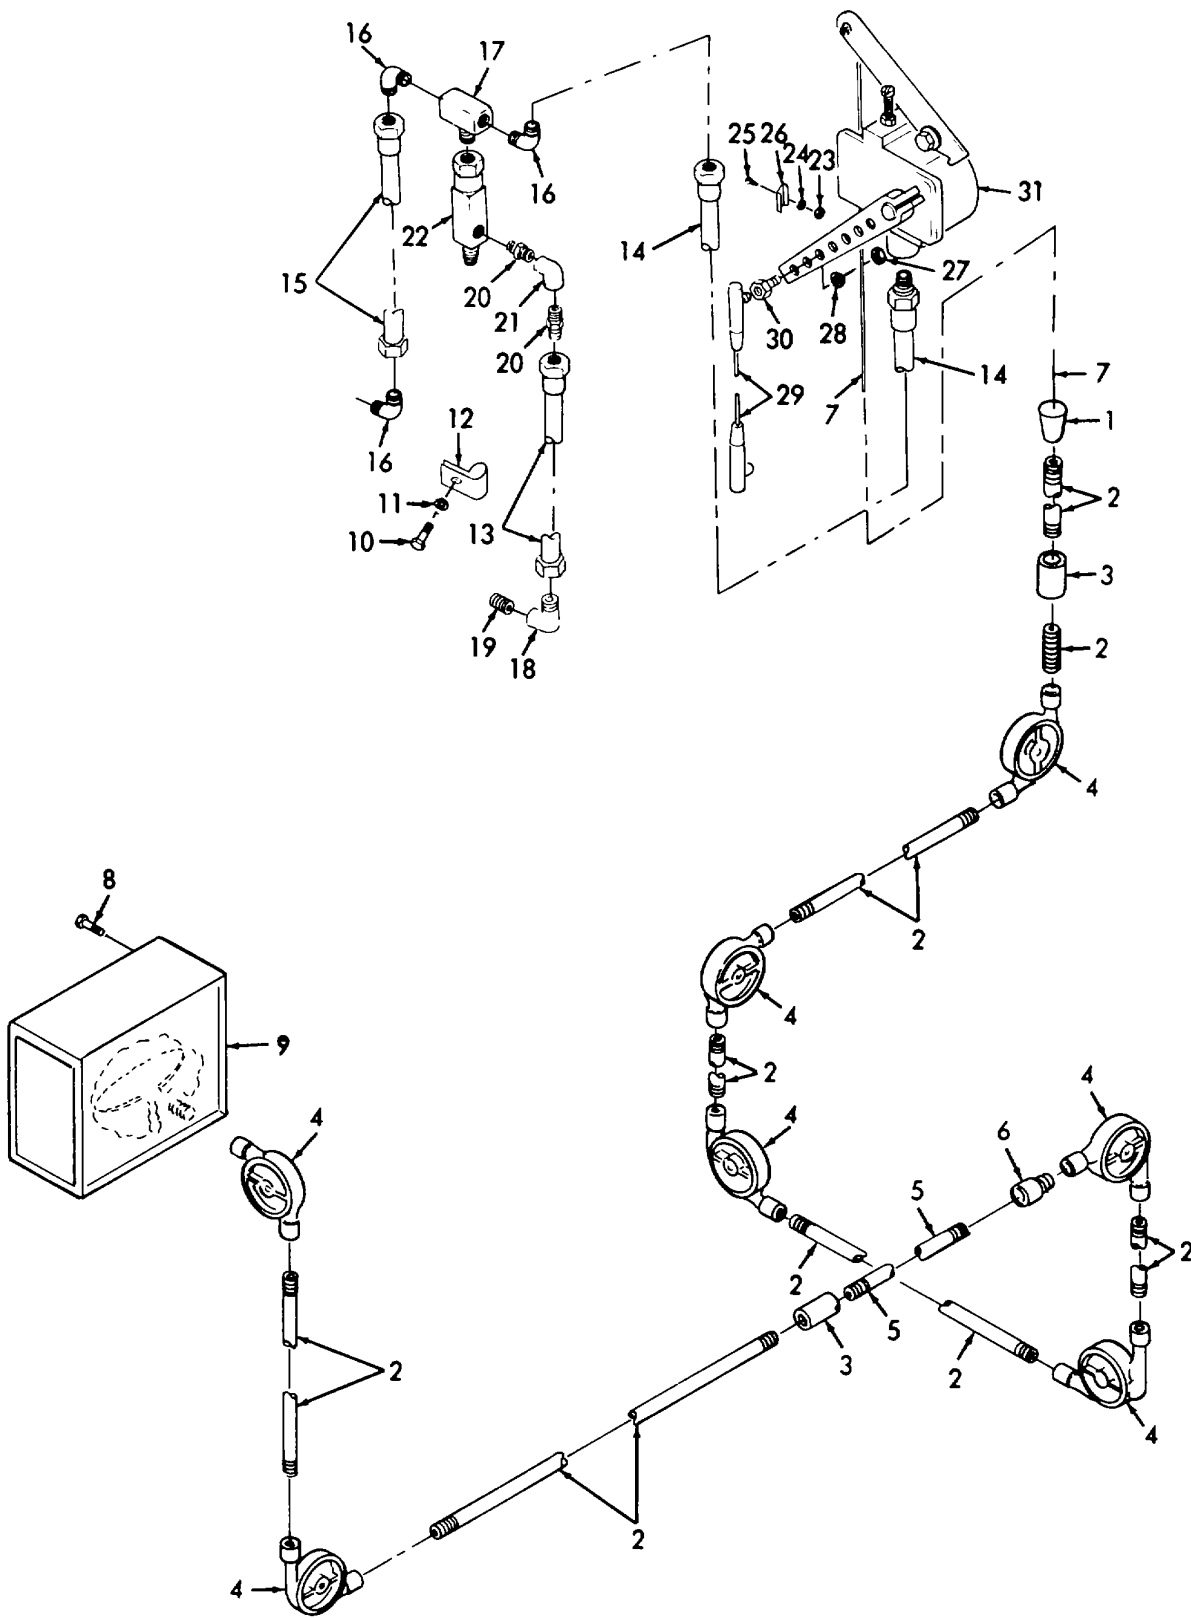

Figure 3-3. Engine Shutdown, Removal/Installation.
a. Removal. (Refer to figure 3-3).
- (1) Disconnect bushing (1) from engine control.
- (2) Remove pipe (2), coupling (3), pulleys (4), pipe (5), and coupling (6).
- (3) Disconnect cable (7) from pull assembly (9) and remove cable.
- (4) Remove four screws (8) and remove pull assembly (9).
- (5) Remove screw (10), lockwasher (11), clamp (12), and hoses (13, 14, and 15).
- (6) Remove three elbows (16) and tee (17). Remove elbow (18), nipple (19), elbow (21), and two adapters (20). Remove valve (22).
- (7) Remove nut (28), lockwasher (24), screw (25), and clamp (26).
- (8) Remove two nuts (27), two lockwashers (28), rod (29), and connector (30).
- (9) Remove two blower bolts and remove control (31).